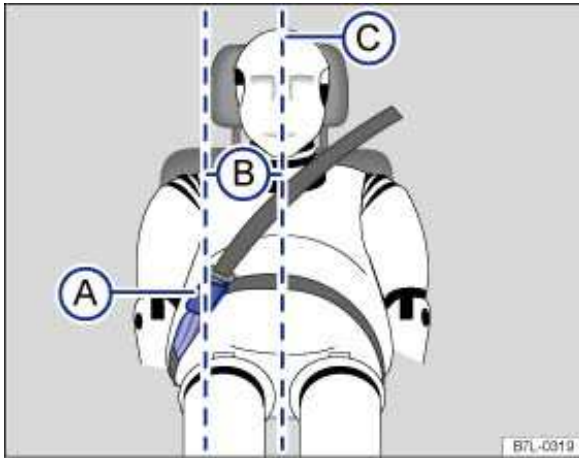

Fig. 81 Positioning of the safety belt extender.
Key to fig. 81:
- Never use a safety belt extender if the distance (B) between the front edge of the safety belt extender buckle (A) and the centerline of the person using the safety belt extender ⇒ fig. 81 \(C\) is less than 6 inches (15 cm).